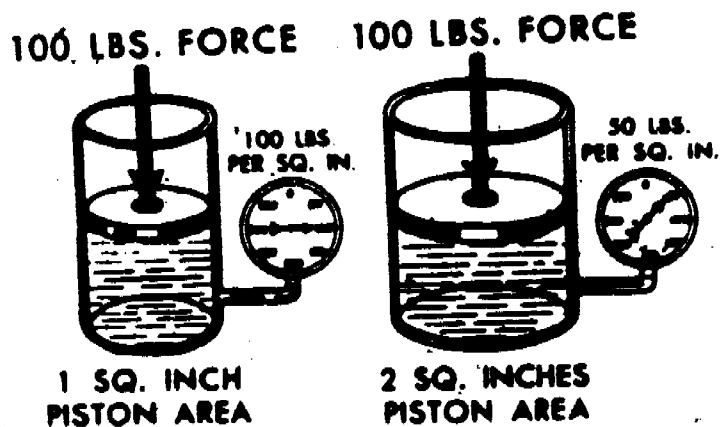

Figure 11. Pressure-Force-Area.
4. Pressure in a closed system, in pounds per square inch (PSI), is the applying force divided by the area of the applying piston. In figure 11 a 100 pound force on a piston of one square inch will produce a pressure in the liquid